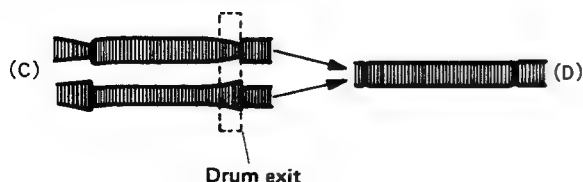

Fig. 2-30 Drum exit waveform adjustment
11. If the portion at the drum exit appears as shown by (C) in Fig. 2-30, adjust the take-up guide roller to obtain a flat waveform as shown by (D).